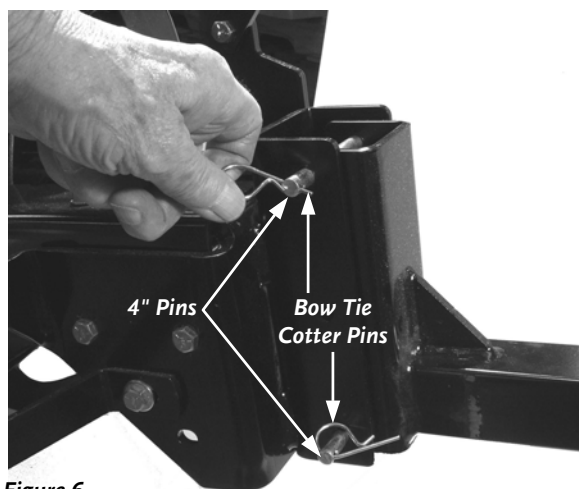

Figure 6
7. Using the two (2) 4" Pins and Bow-Tie Cotter Pins from the Hardware Bag, attach the Tow Hitch to the machine (**Figure 6**).